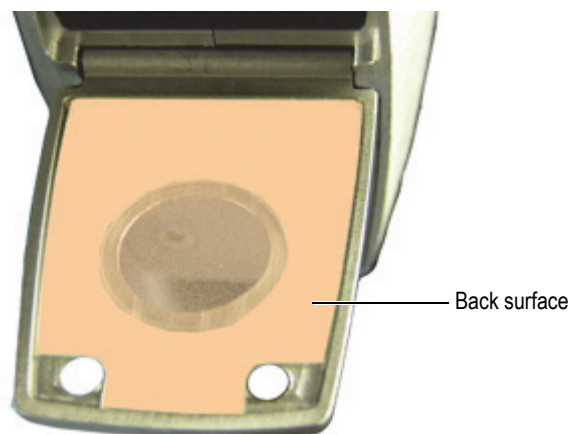

Figure 9-2 Window back surface
- The “back” surface is completely covered with film (see Figure 9-2 on page 110).